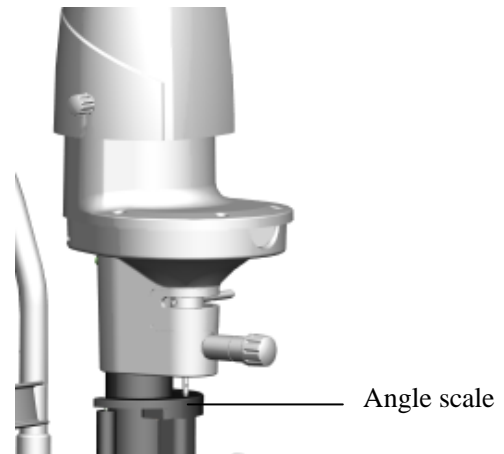

Figure3.4.3
3. Rotating slit image: horizontally move aperture selection knob can rotate the slit image at any angle between vertical and horizontal. The angle of rotation can be displayed by the scale board. Each small grid is 5, and the larger grid is 10. (See Figure 3.4.3).